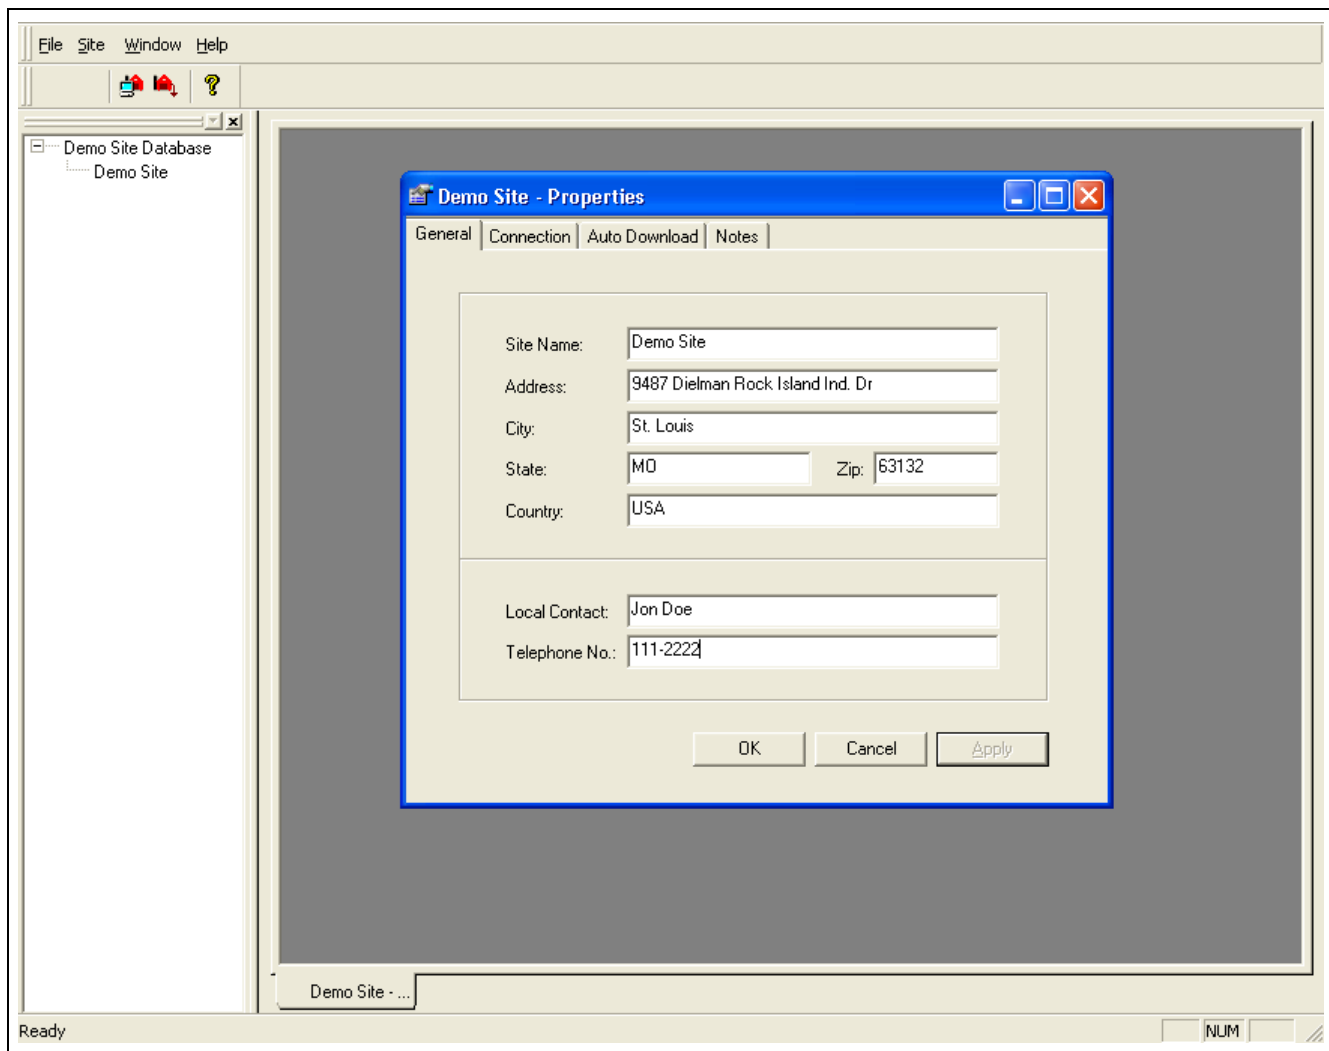

Figure 11B Naming Database in General Tab
4. The name of “New Database” will appear in the site database field. Rename to any appropriate identifier: “Site Database”, “Sam’s Farms”, etc. In the screen below the site database was renamed to “Demo Site Database”. (See Figure 11B.)
5. Next in the file pull-down menu create either a group of sites or an individual site location. A site location can be thought of as a specific network collector. The example below created a site with the name “Demo Site”. An example of a group might be a Farm that had more than one (1) network collector. First a group would be created, and then sites underneath that group for each network collector. (See Figure 11B.)